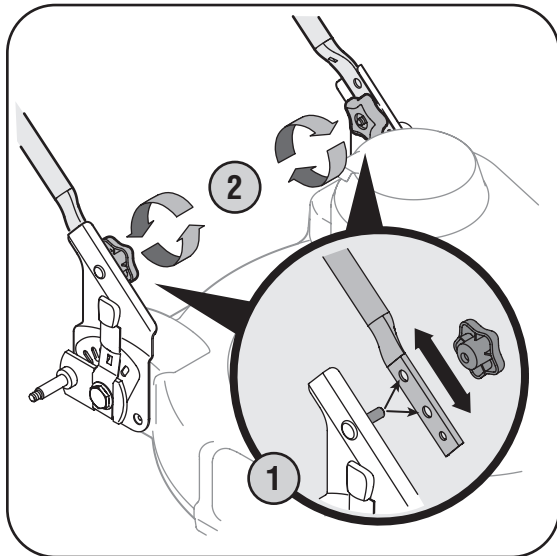

Figure 3-3: Attach the lower handle to the brackets on deck.
1. Place the lower handle over the handle bracket assemblies and position each bracket stud into the top or bottom hole, Figure 3-3.
2. Secure with the star knobs, Figure 3-3. Each side of the lower handle must be positioned onto the stud at the same position.